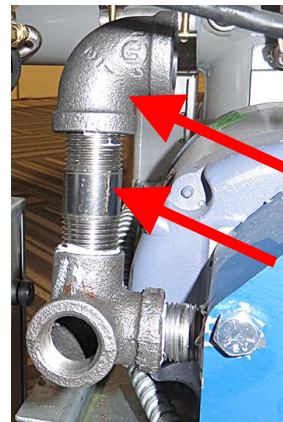

Figure 62
60. Apply Locktite to both ends of the 2" nipple (8130298). Insert the nipple into the top of the 90° elbow with outlet, attached to the pump, in the previous step (see Figure 62).